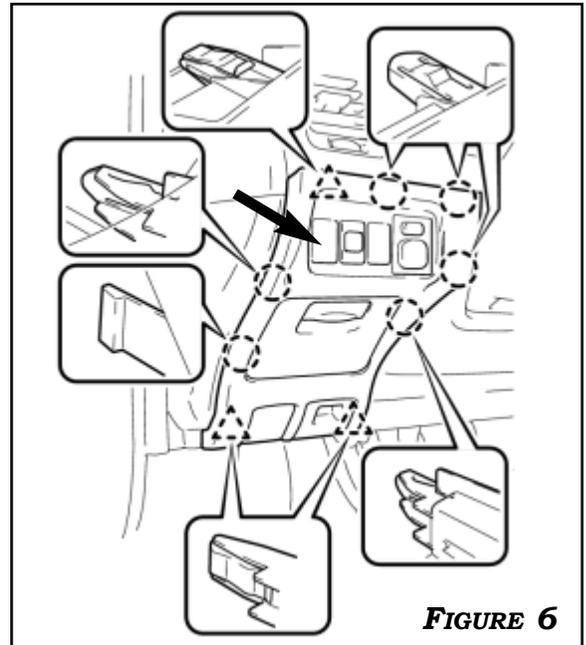

FIGURE 6
6. DISENGAGE THE 6 CLAWS AND 3 CLIPS. DISCONNECT EACH CONNECTOR AND REMOVE THE LOWER INSTRUMENT PANEL FINISH PANEL ASSEMBLY. PRESS IN TABS TO REMOVE THE SWITCH BLANK PLUG. **FIGURE 6**